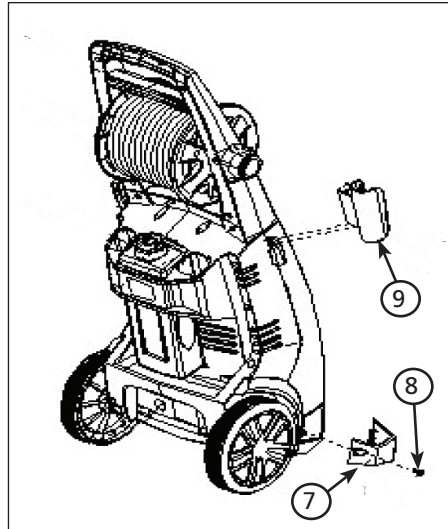
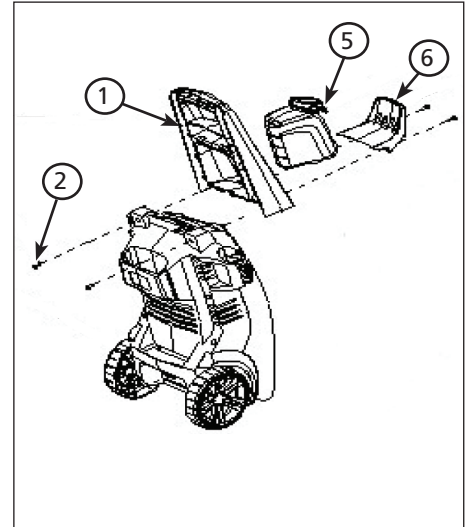
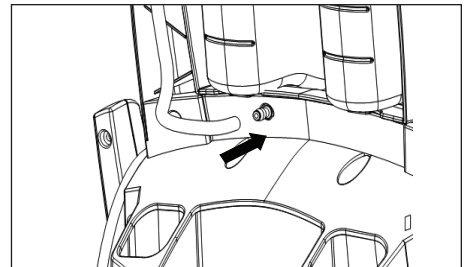

Figure 9 - PW1835 only
Figure 8 - PW1825 only
Figure 10 - Attach soap tube to unit (models PW1825 and PW1835 only)
1. Slide handle (1) onto unit (see Figure 8).
3. Slide hose hook (6) onto front of pressure washer.
5. Slide soap tank (5) into handle.
6. Attach soap tube to unit (see Figure 10).
1. Slide upper gun hook (9) onto unit (see Figure 9).
2. Rotate lower hook (7) into slot in unit.
3. Attach lower hook (7) with phillips screw (8).
4. Attach soap tube to unit (see Figure 10).